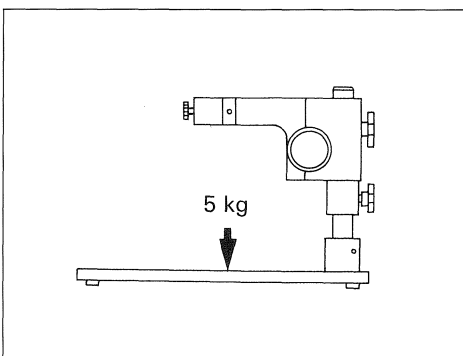

Fig. 3
- 2) Specimen load (Fig. 3) ..... up to 5kg (11.02lb)